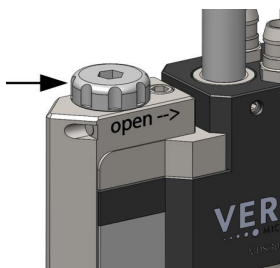

Fig. 38: Screw open the adjust screw completely
1. Preparation for the adjust: Use the tool MDT 327 to turn the adjust screw completely in the direction "open" (see arrow on the valve, see Fig. 38, page 124, torque for screwing it open is approx. 50 – 60 cN.m). Mount the tappet. Mount the complete fluid box and the nozzle fixation nut. Screw the nozzle fixation nut absolutely tight by using the tool MDT 327 (torque at least 150 cN.m).